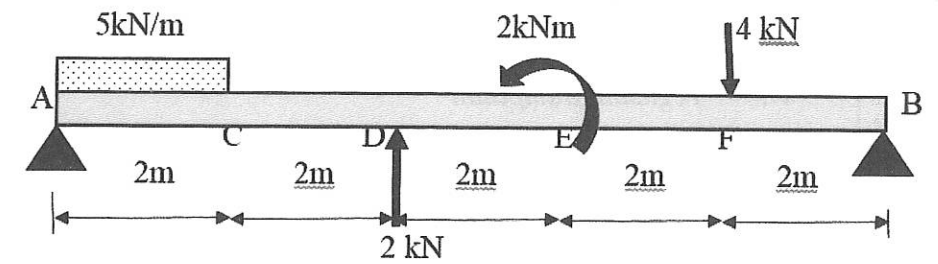

Figure 4 / Rajah 4
- (c) Figure 4 shows a 10 m simply supported beam subjected to an evenly distributed load of 5 kN/m, point load of 2 kN and 4kN and moment of 2 kN/m along its span. Draw the shear force diagram and bending moment for the beam.